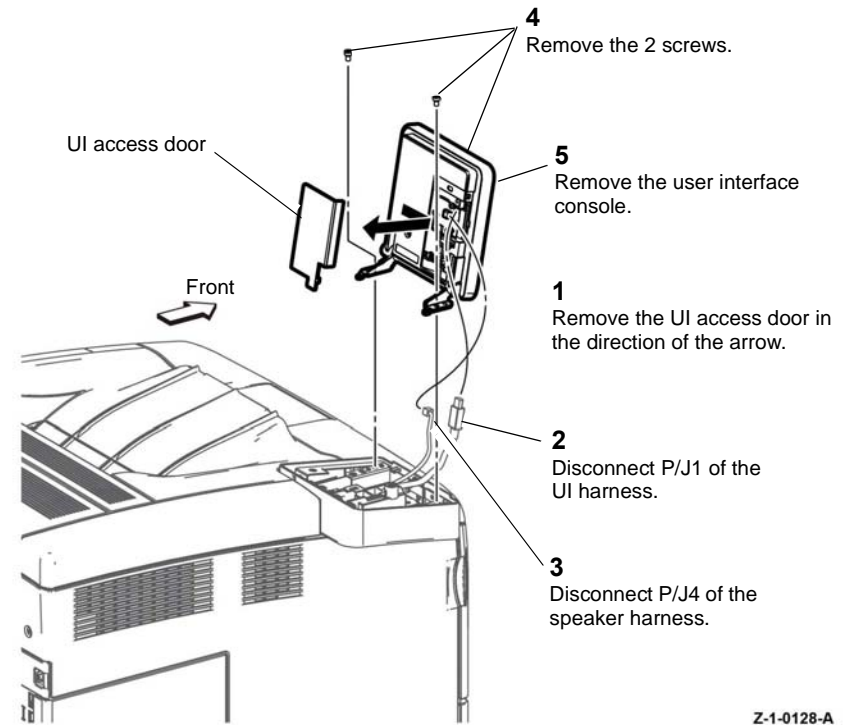

Figure 2 User interface console C400
2. Remove the user interface console, Figure 2